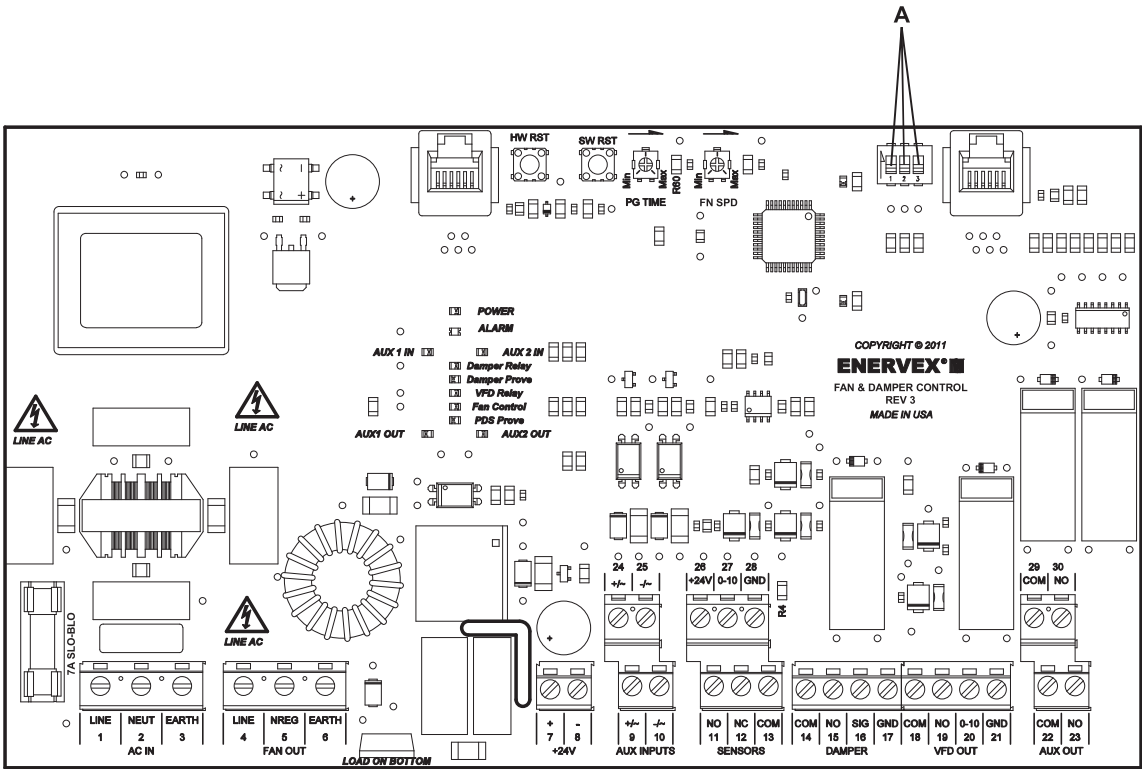

Fig. 14
- If the factory setting must be changed, the dipswitches are located in the upper right hand portion of the control board as shown in Figure 14.